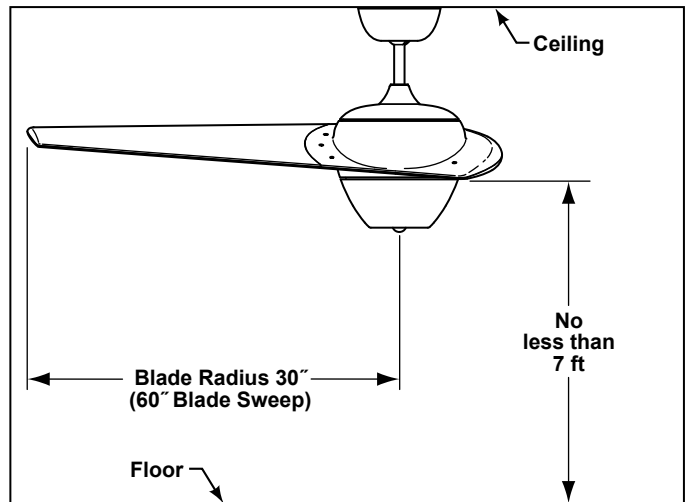
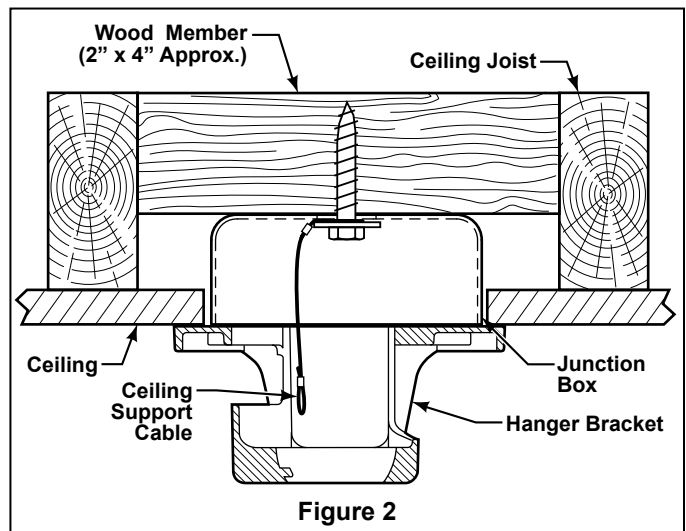

Figure 1
Figure 2
NOTE: If you are uncertain of part description, refer to exploded view illustration. (Figure 1, page 11)
Your new ceiling fan will require a grounded electrical supply line of 120 volts AC, 60 Hz, 15 amp circuit. The outlet box must be securely anchored and capable of withstanding a load of at least 50 lbs. Figure 1 depicts different structural configurations that may be used for mounting the outlet box.
3. Assemble the Lower Cover Assembly by connecting the 2-pin (black & white wires) socket connector to the plug connector (blue & white wires). Be sure the connector wires are inside the Control Housing before assembling the Lower Cover Assembly. (Figure 1)
4. Locate and loosen two Indexing Screws located on the Control Housing. (Figure 1) Line up the indexing holes over the screws, secure by twisting the Lower Cover Assembly clockwise and tighten the two indexing screws. (Figure 2)
The fan must be hung with at least 7' of clearance from floor to blade (Figure 1)
1. Securely attach the ceiling support cable to the ceiling joist or structural member using the $\frac{3}{8}$ " x 2" lag bolt and flat washer. The lag bolt will pass through the flat washer, loop of the ceiling support cable, the outlet box and into the supporting member (Figure 2). You will first drill a $\frac{1}{4}$ " pilot hole into the supporting member to prevent splitting or cracking.
NOTE: Ceiling support cable cannot be secured to junction box only, it must be directly secured to ceiling joist or structural member using the $\frac{3}{8}$ " x 2" lag bolt and flat washer. (Figure 2).
- Slide remote Receiver into the Hanger Bracket (Figure 2).